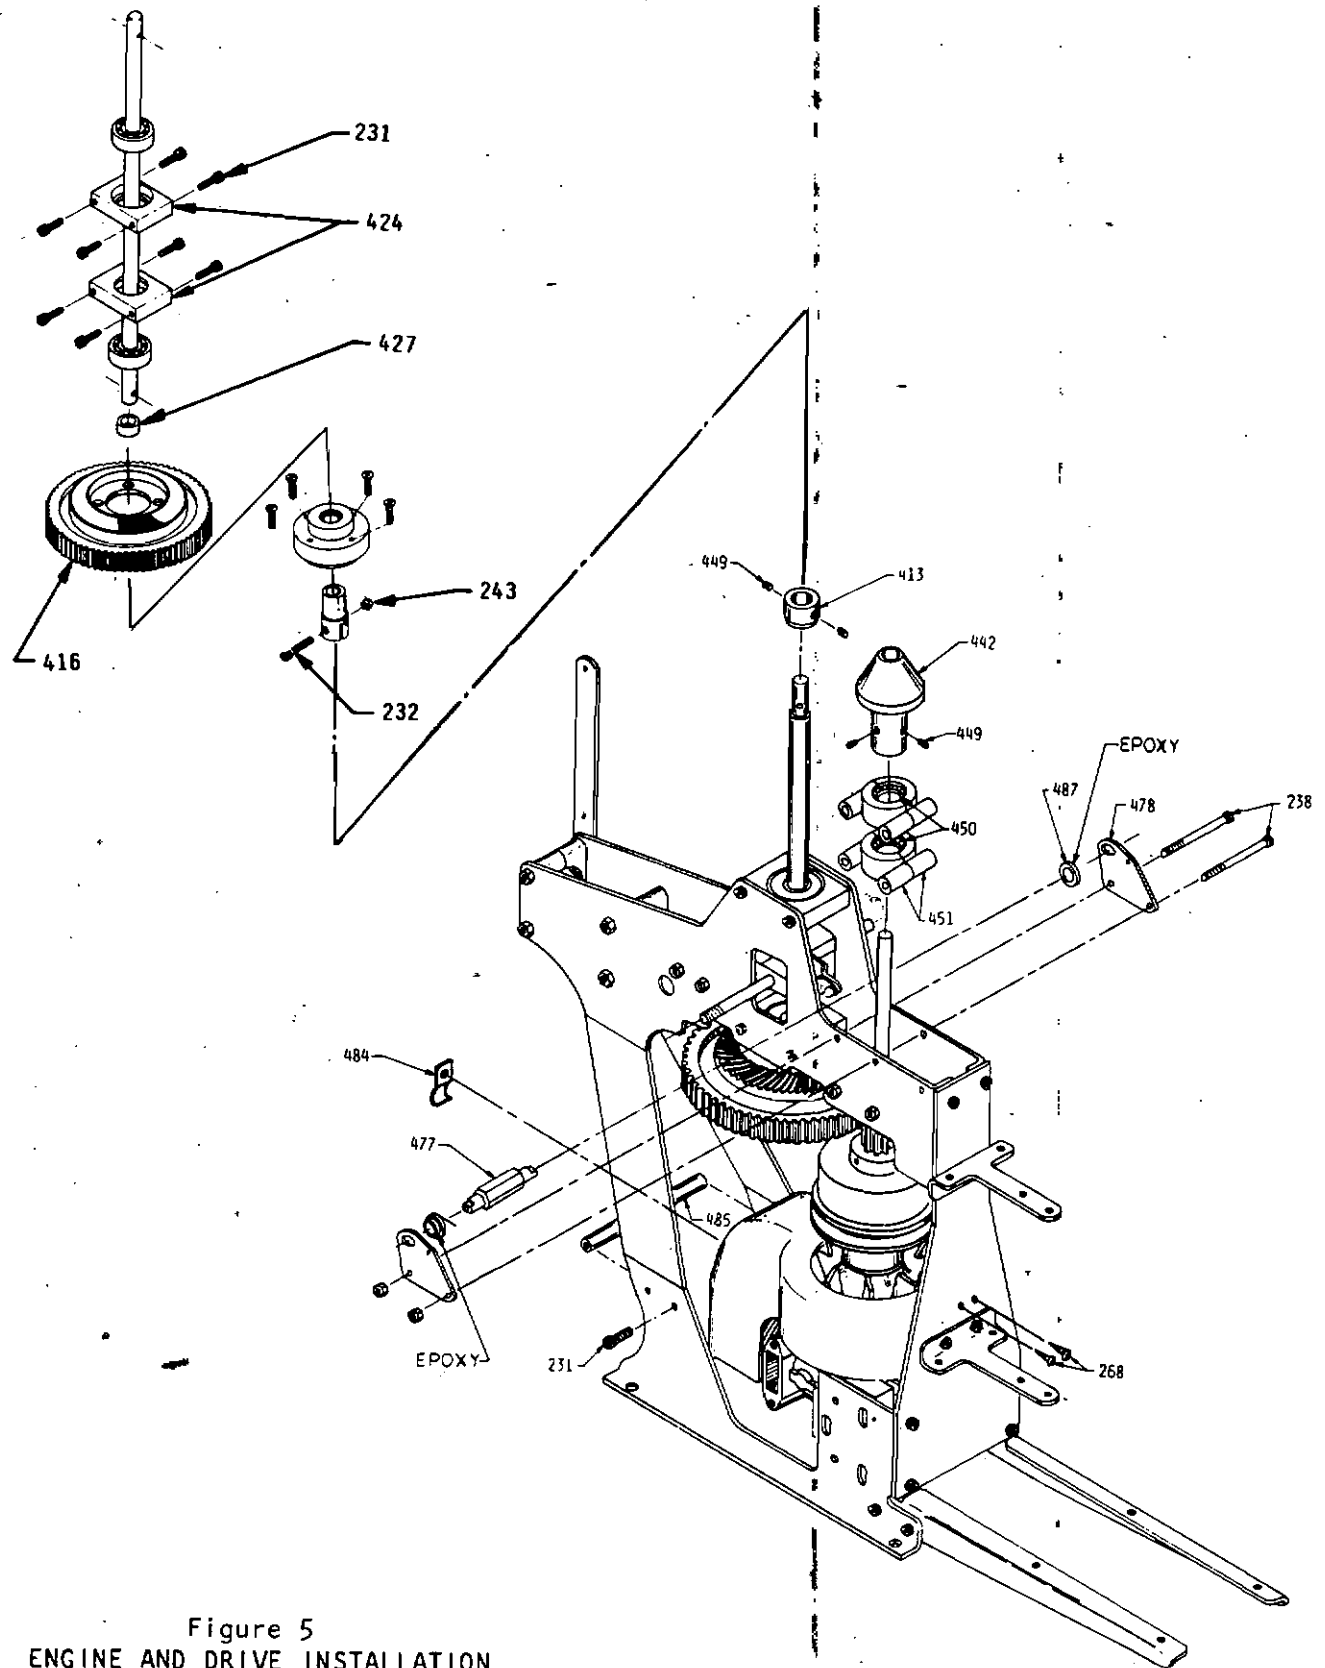

Figure 5
STEP 5 ENGINE AND MAIN DRIVE INSTALLATION - see Figure 5
STEP 5A ENGINE AND MAIN DRIVE INSTALLATION - continued - see Figure 5
- J. Mount front of cooling shroud (wood block end) to front frame plate with two 3 x 14mm wood screws #268. See Figure 5. The under surface of the shroud top should clear the fan top surface by about one millimeter and the 50mm cutout hole should be located symmetrically around the engine shaft. These adjustments will ensure good cooling efficiency.